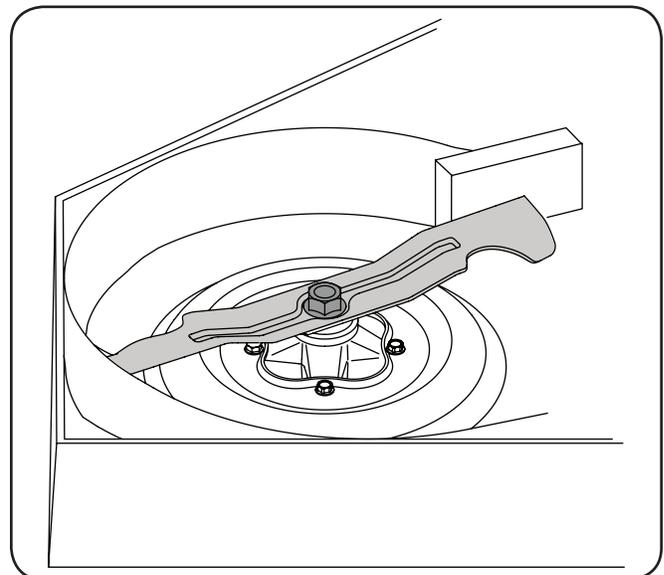

Figure 7-6
3. Wrap a rag around one end of the blade and grasp it to prevent it from turning, or secure the blade by placing a block of wood between the blade and the deck housing. See Fig. 7-6.